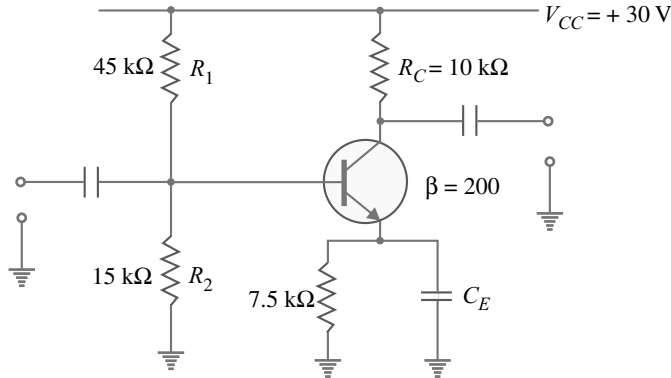

Fig. 8.44
**Example 8.24.** Determine the input impedance of the amplifier circuit shown in Fig. 8.44.